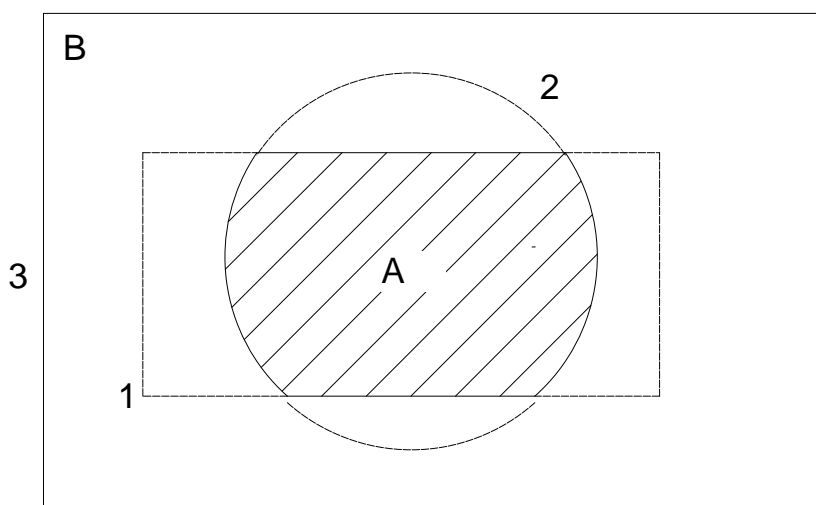

Figure 2: Use of OR operator.
As a more complicated example of the use of the (OR) operator, consider the system shown in Fig. 2 consisting of the shaded region A and the unshaded region B. These regions can be described by the two BOX's, bodies 1 and 3, and the RCC, body 2. The region description would be